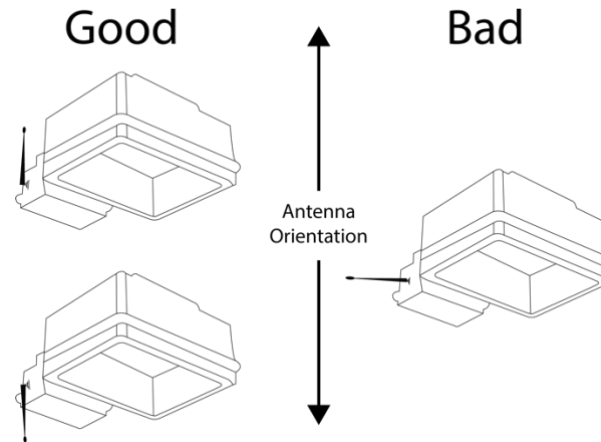

Figure 1 - Proper Antenna Installation
- When installing the DIM10-087-06-A into an enclosure, consideration of the external antenna position and interference is required in order to provide the most optimum wireless signal strength. Prior to permanently mounting it, make sure the antenna points directly upward or downward and is free of any metal objects within 12 in. of the antenna (Figure 1).